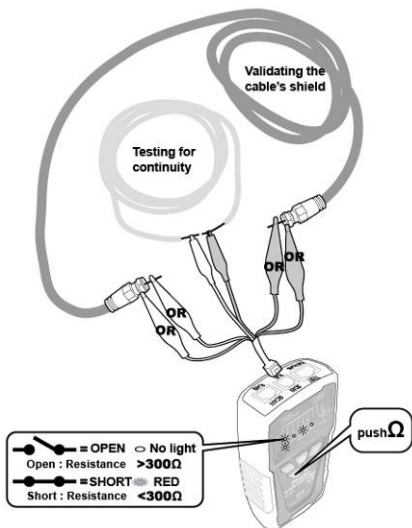

Figure 9 Coaxial Cable & Continuity Test
1. Connect the Transmitter to the circuit as shown in Figure 9.